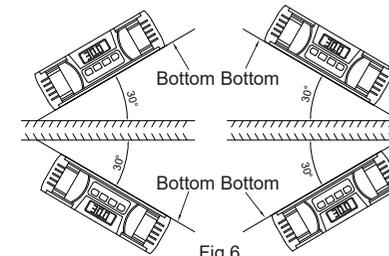

Fig.6
8. The instrument can use in 4-orientation, the display flips over when the bottom faces up(Fig.6)